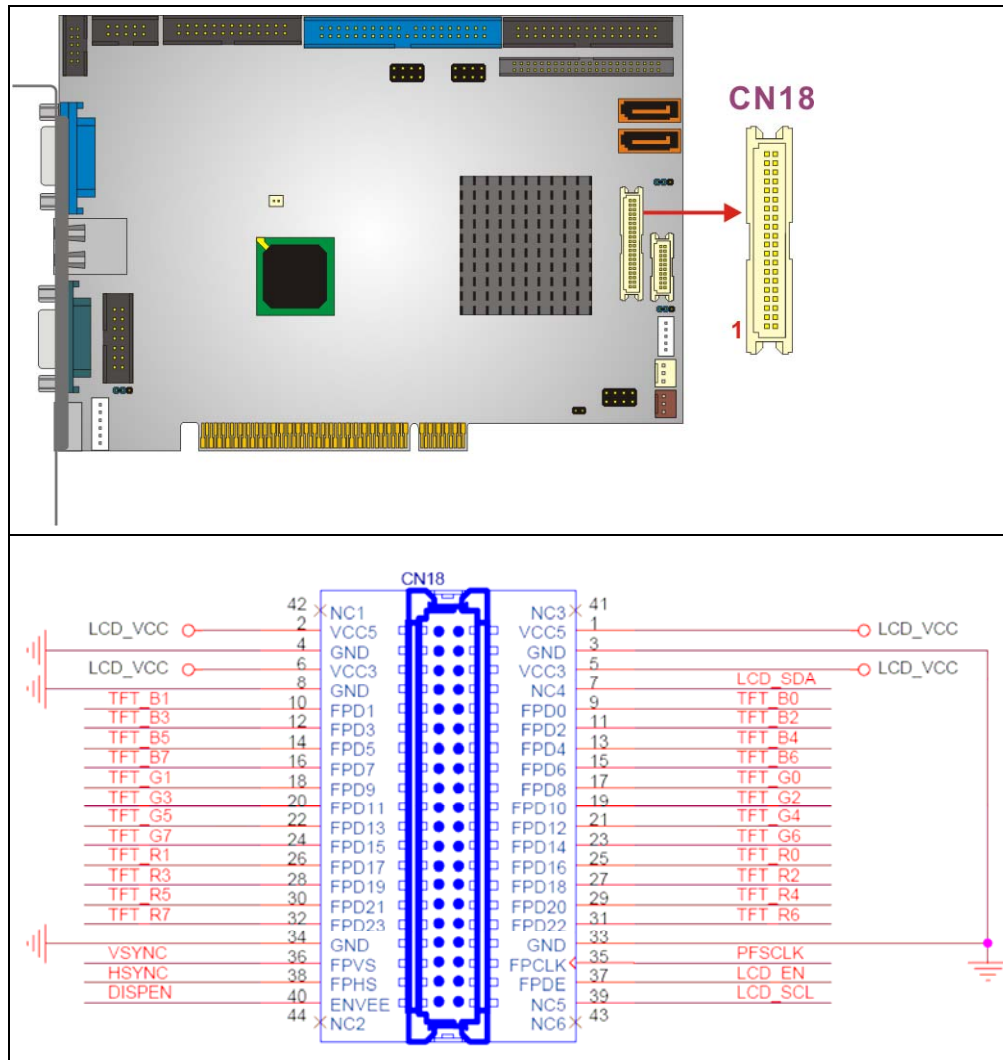

Figure 3-19: TFT LCD TTL Connector Pinout Locations
- CN Location:** See Figure 3-19